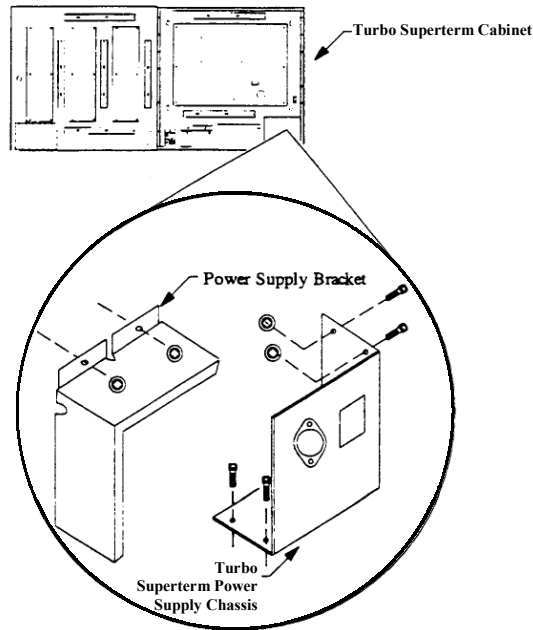

Figure 56 - Turbo Superterm Power Supply Replacement
1. Open the Turbo Superterm cabinet and locate the 12VDC power supply (P/N CICPEXPPWS) in the lower right corner of the cabinet (see Figure 56).